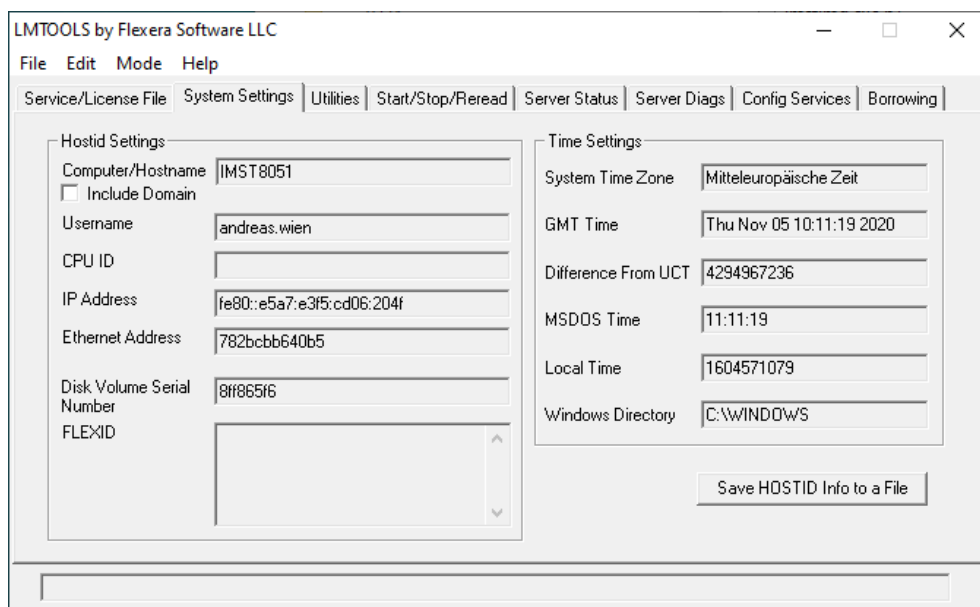

Figure 2.1.: License Management Tool
- **License Management Tool** Starting `lmttools.exe` in `C:\EMPIRE_XPU_9.xx\empire\flexlm\winnt` switch to **System Settings** Tab, see Fig.2.1